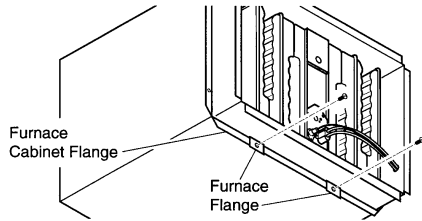

Figure 11 - Removing Screws on Lower Flange (40,000 BTU/Hr Model Shown)
- 2. Remove two screws on front lower flange that attach furnace flange to furnace cabinet flange (see Figure 11). *Note:* 40,000 BTU/Hr model has a bottom shield (see parts list, page 19, for location). Removing two screws will detach bottom shield.